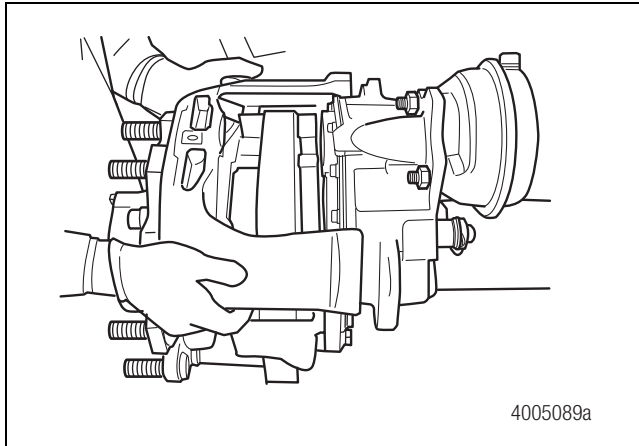

Figure 6.23
3. Carefully remove the bridge. Figure 6.23.